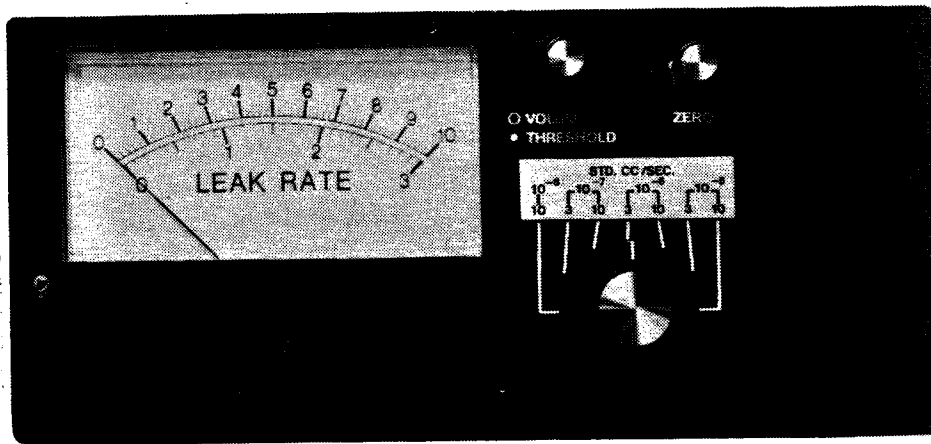
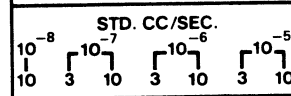

Figure 5-5. Leak Indicator Panel
Figure 5-10.
1. Rotate the Range Scale Selector (Figure 5-5) to the appropriate position (Figure 5-10):
8. Set the Range Selector Control (Figure 5-5) fully counterclockwise.
9. Set the ZERO control (Figure 5-5) fully clockwise.
3. Rotate the Range Scale Selector block to expose the dynamic range for which it is desired to calibrate the leak detector (Figure 5-10).